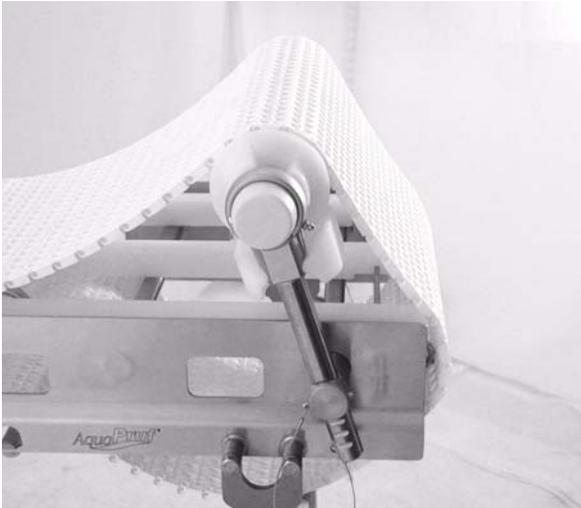

Figure 43
1. Tip up idler tail assembly (Figure 43).